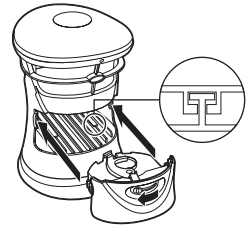

Fig. 3
8. To reassemble Catch-tray, slide top and bottom together until Snap-Tab is engaged. Be sure ON/OFF Lever is in the OFF position and the Inlet Valve is closed. Slide Catch-tray back into unit by aligning the bottom on the tracks until it snaps in place (See Fig 3).